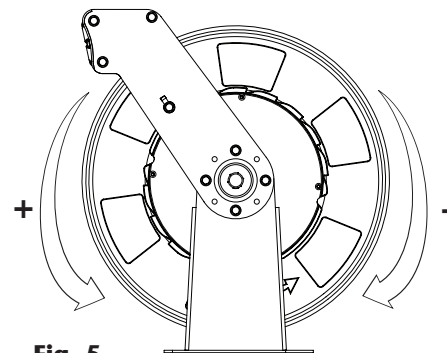

Fig. 5
3. Start to rewind the hose, turning the spool manually until the hose is completely wound around the spool (the power spring still will be with no tension). Apply the pre-tension to the power spring by turning the spool in positively direction as shown in (fig. 5). Do not apply more pre-tension turns than shown in table 1, the power spring could be damaged.
6. Apply the pre-tension to the power spring as shown in table 1, by turning the spool in positively direction as shown in (fig. 5). Do not apply more pre-tension turns than shown in table 1, the power spring could be damaged.